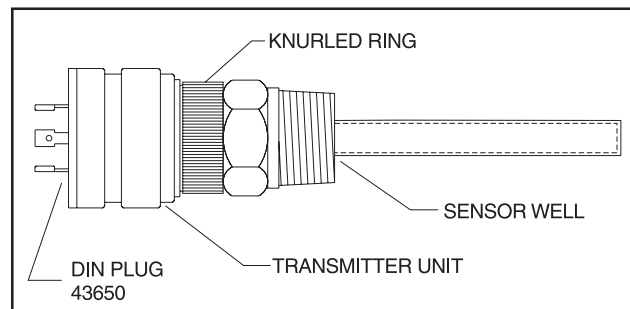

Figure 27 - TEMPERATURE TRANSMITTER
2. Remove DIN connector plug from transmitter (See Figure 27).